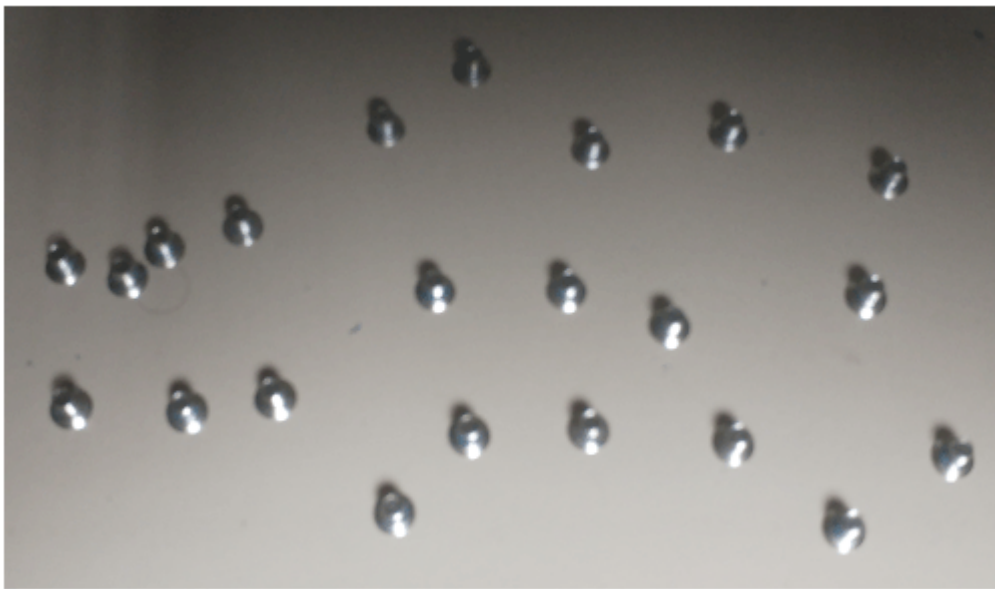

Figure 105. Midplane assembly screws
19. Unpack the replacement midplane assembly. Locate the pack of replacement screws that comes in the package. The package includes 24 screws, but only 22 screws (shown in Figure 105 on page 151) are used to secure the enclosure chassis.